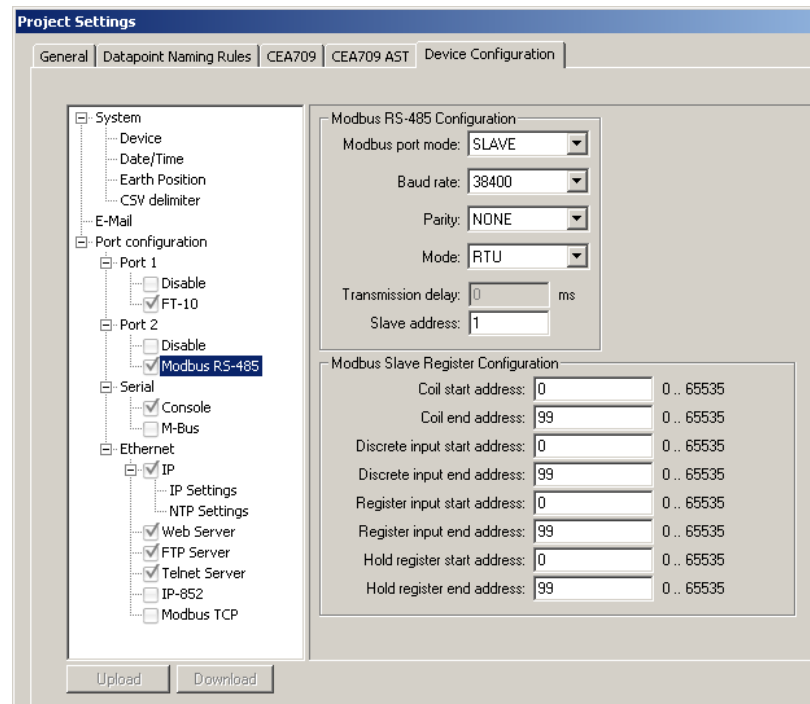

Figure 128: Project settings for Modbus.
2. In the **Device Config** tab enable the Modbus check boxes on the desired ports as shown in Figure 128. Setting the check box enables Modbus on that port. Edit the Modbus communication settings.